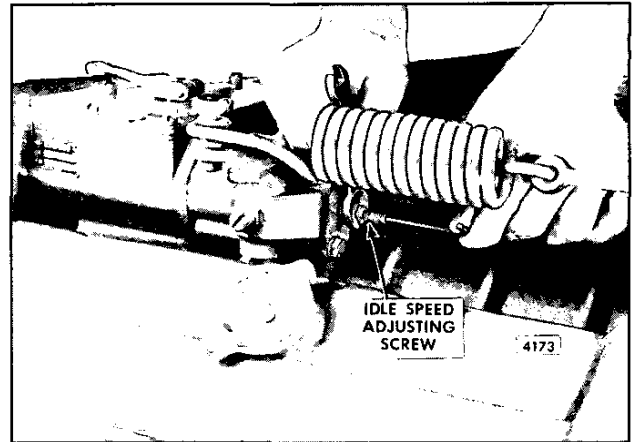

Fig. 14 - Adjusting Idle Speed
3. Loosen the lock nut and turn the idle speed adjusting screw (Fig. 14) in or out until the engine idles at 600 rpm.